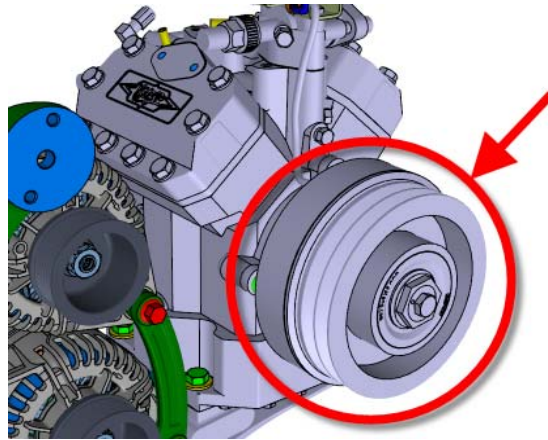

FIGURE 6
9. Remove the LANG electromagnetic clutch assembly (FIGURE 6).